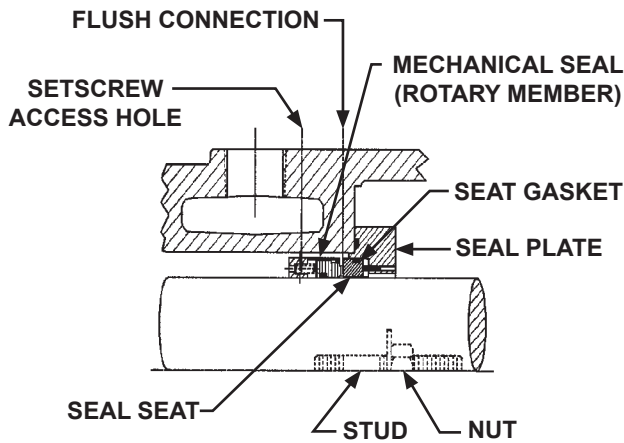

FIGURE 8
2. Elastomeric O-ring (**Figure 8, page 9**)
5. Move rotary member so set screws are directly below seal set screw access holes on side of bracket (**See Figures 8 and 9.**) Tighten all set screws securely to shaft.